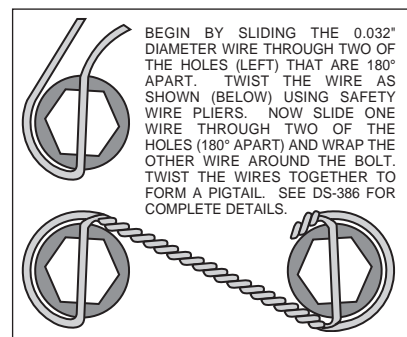

Figure 3. Safety Wire Diagram
•Position the caliper mounting bracket (1) on the spindle. **NOTE:** Be sure the heads of the caliper bracket (1) insert nuts are facing outward toward the wheel. Place one lock washer (2) on each of the three caliper bracket bolts (3). Mount bracket to the dust plate face of the spindle and align the three 3/8-16 holes in the spindle with the corresponding holes in the bracket (1). Apply red *Loctite*® 271 to all three bolt threads (3) and install. Torque bolts (3) to 260 **in-lb**.
•Install wheel studs (4) into the hub (5). Torque to 77 ft-lb. **NOTE:** There are two lug patterns of five holes each in the hub (5 x 4.50 and 5 x 4.75). Make sure of the correct hole pattern for the wheel application before installing the studs into the hub.
•Attach rotor adapter plate (8) to rotor (9) using bolts (10). Torque bolts (10) to 180 **in-lb**. Safety wire bolts (10) using standard 0.032 inch diameter stainless steel safety wire as shown in Figure 3. Please refer to Wilwood's data sheet DS-386 (available at www.wilwood.com/pdf/ds386.pdf) for complete safety wire installation instructions. **NOTE:** Dished side of adapter plate (8) should face hub (5). The mounting tabs on the rotor (9) should face toward the hub as well and line up with the holes on the adapter plate (8).
•Mount the adapter/rotor assembly (8 and 9) to the hub (5) using bolts (11). Torque bolts (11) to 22 ft-lb. Safety wire bolts (11).
•Pack the large inner bearing cone (6) with high temperature disc brake bearing grease (available from your local auto parts store) and install into the backside of the hub (5).
•Install the grease seal (7) by pressing into the backside of the hub (5).
•Pack the small outer bearing cone (12) with high temperature disc brake bearing grease and install into front of hub (5). Slide the hub assembly (5, 6, 7 and 9) with outer bearing cone (12) onto the spindle. Secure using spindle washer (13), stock adjusting nut and nut locking device. Adjust bearings per Original Equipment Manufacturer (OEM) specifications.
•Install the o-ring (15) and the dust cap (14) onto the hub (5). Friction created by the o-ring (15) on the dust cap (14) keeps it from unscrewing on its own.
•**NOTE:** Please reference the caution statement at the beginning of the assembly instructions. With the bleed screws pointing up, mount the caliper (16) onto the caliper bracket (1) using lock washers (17), bolts (18) and caliper spacer (19). Finger tighten. View the rotor (9) through the top opening of the caliper (16). The rotor (9) should be aligned in the center of the caliper (16). If not, adjust the caliper (16) by using 0.032 inch thick shims (20) placed between the caliper mounting bracket (1) and the caliper spacer (19). Finger tighten and recheck alignment. Apply red *Loctite*® 271 to bolt threads (18) and torque to 30 ft-lb. Safety wire caliper bolts (18).
•Install the disc brake pads (21) and secure using cotter pin (22).